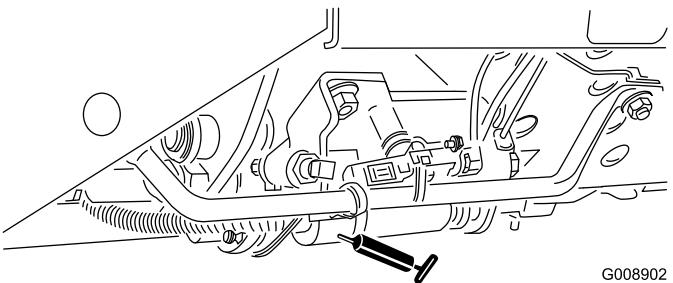

Figure 52
- Mow/transport slide (Figure 52)